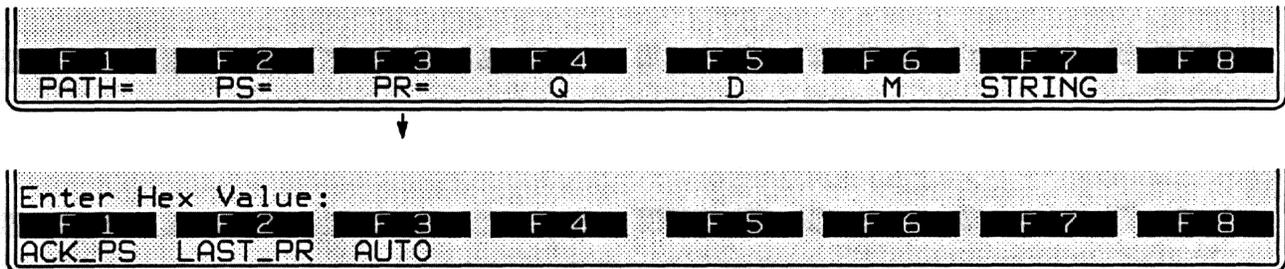

Figure 34-28 The P(R) field may be specified in data and supervisory packets to be sent.
8. *P(R)*. To specify a P(R) value, press the softkey for PR= (see Figure 34-28). Enter a hexadecimal value written as one or two alphanumeric digits. Valid hex entries are the same as for P(S).
Other P(R) options are ACK_PS, LAST_PR, and AUTO. (See Figure 34-28.) ACK_PS means that your P(R) will acknowledge (that is, it will be *one higher than*) the last P(S) value you received. Normally this will be the correct P(R), except in cases where the last P(S) received was erroneous. The PR=ACK_PS selection allows you to overlook P(S) errors.
9. *Q, D, and M.* Softkeys for Q, D, and M are included in the full set of optional parameters for a SEND DATA action in the top rack of Figure 34-28.
Press the SEND softkey followed by the softkey for a packet type. Add any necessary or desired SEND options for the particular packet type. Then press the STRING softkey (see Figure 34-28, for example).